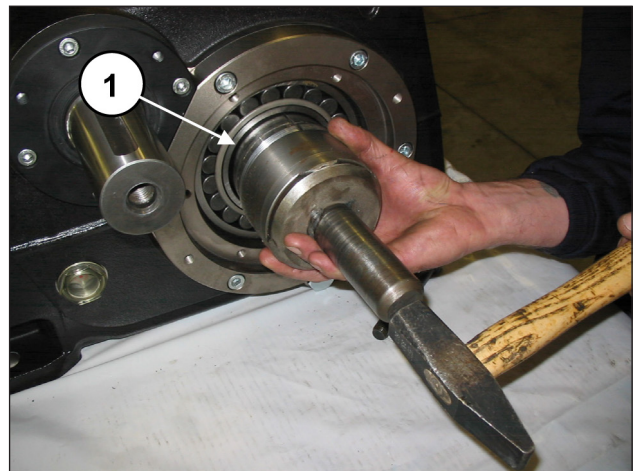
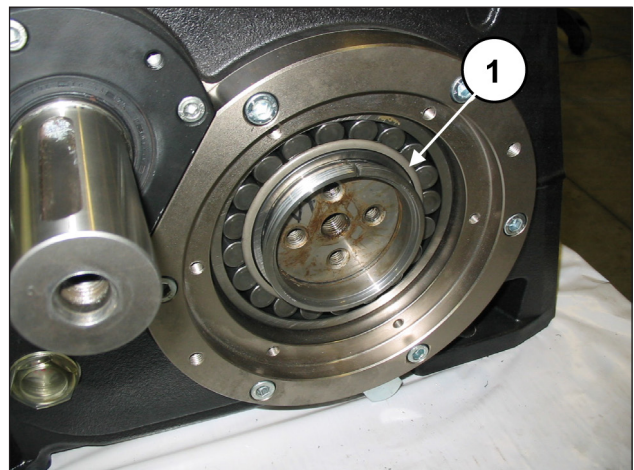

Fig. 77
Fig. 78
Insert the pressure bush completely onto the bend shaft (pos. ①, Fig. 77 and Fig. 78) using an extractor hammer and a buffer.